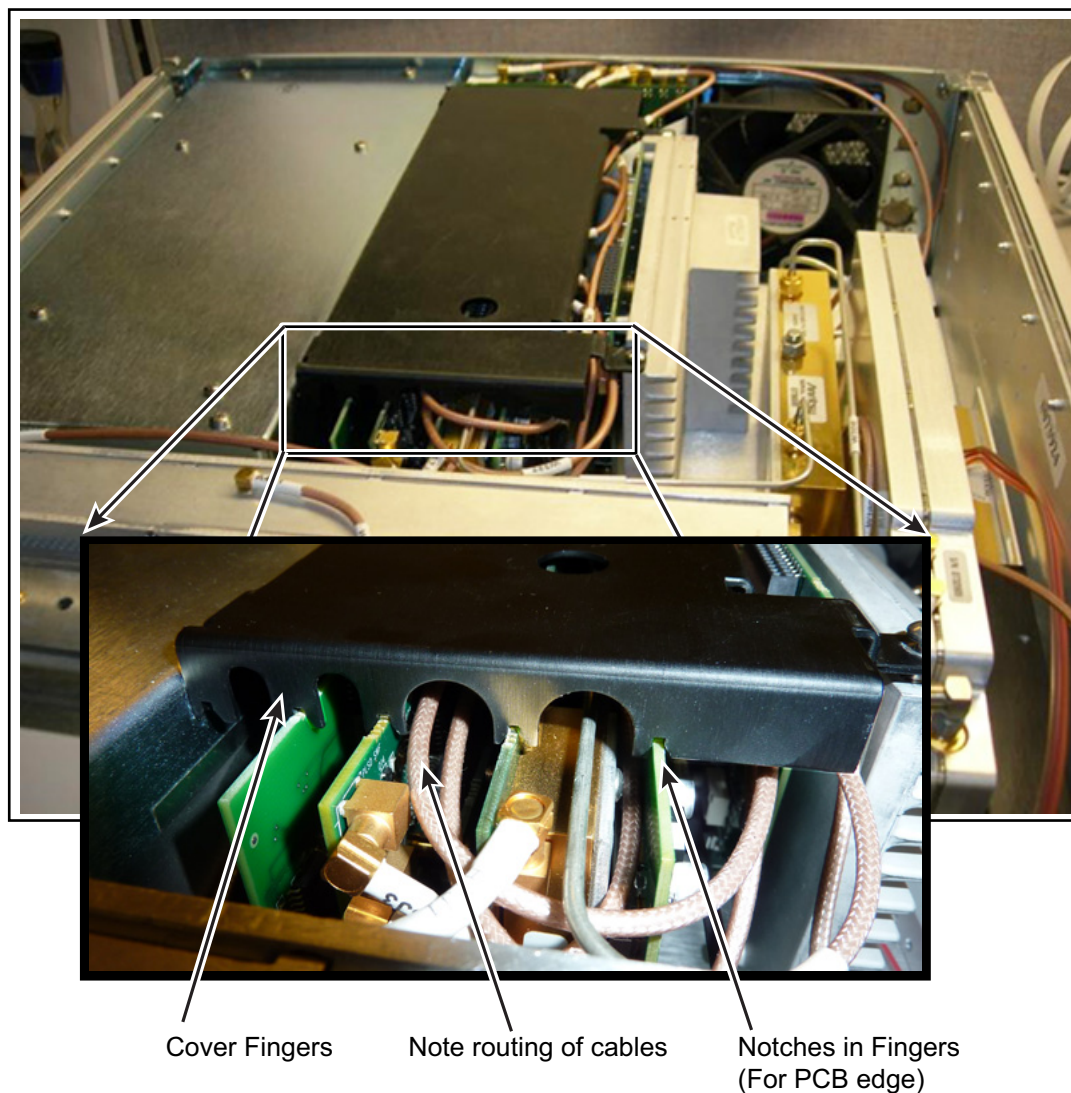

Figure 7-11. Ensuring Cover Alignment
2. As the cover is lowered, ensure that all PC board top edges are aligned with the notches in the fingers at both ends of the cover, and that the cover is not pinching any cables. See Figure 7-11.
Note	The PC boards top edges may have to be moved slightly to align them properly with the notches in the cover. Figure 7-11 shows the cover fingers holding the PCB assemblies in place.